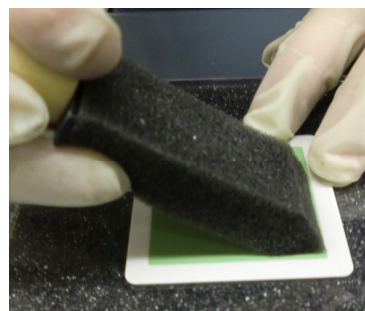

Figure 11
4. Use approximately 0.5 grams of nickel ink to evenly cover the entire anode active area of the fuel cell with a thin layer of ink (Figure 11).